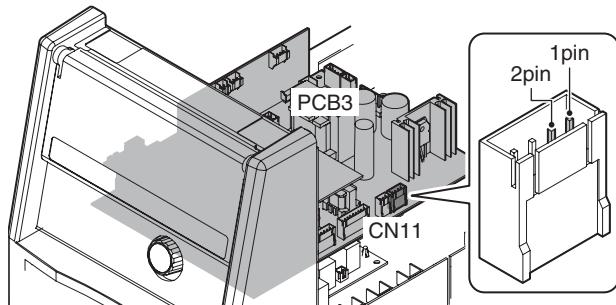

Figure 6-12: Verification of the FAN1
1) Verify the condition of the cooling fan, FAN1, using a DC voltmeter. (The capability of the voltmeter should be more than 50VDC.) Using a DC voltmeter, measure between PIN 1 (Positive [+]) and PIN 2 (Negative [-]) of CN11 on PCB3 (WK-5548). The location of connector CN11 of PCB3 is indicated in Figure 6-12. When you measure the above voltage, do not remove the connector. Conduct the measurement while the connector plug and receptacle are still connected.